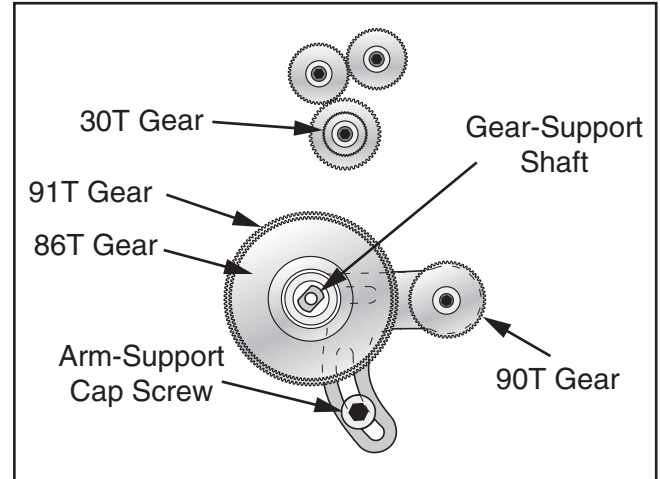

Figure 71. End gear placement.
5. Loosen **86T/91T** gear support shaft and slide middle gear away from lower position gear (see **Figure 71**).